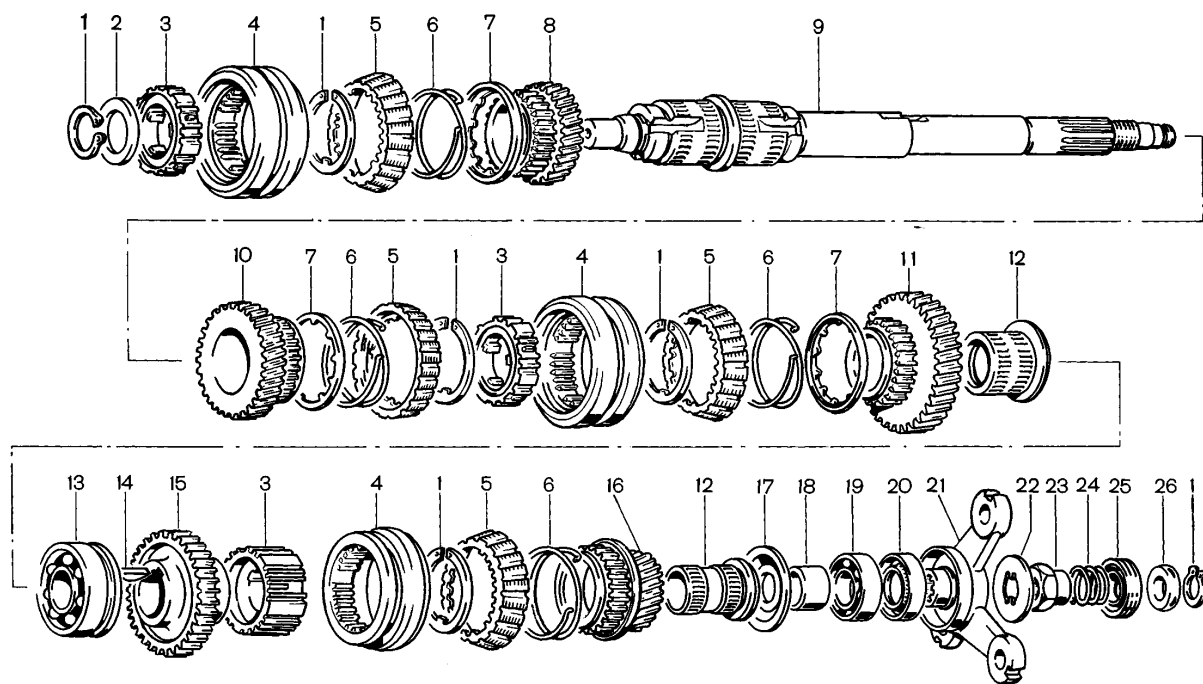

Fig. 3-31. Output shaft, exploded view:
- instead of a metal centering ring 26 (see fig. 3-31) and circlip 1, a rubber centering bush is installed;
Dismantle the output shaft (fig. 3-31):